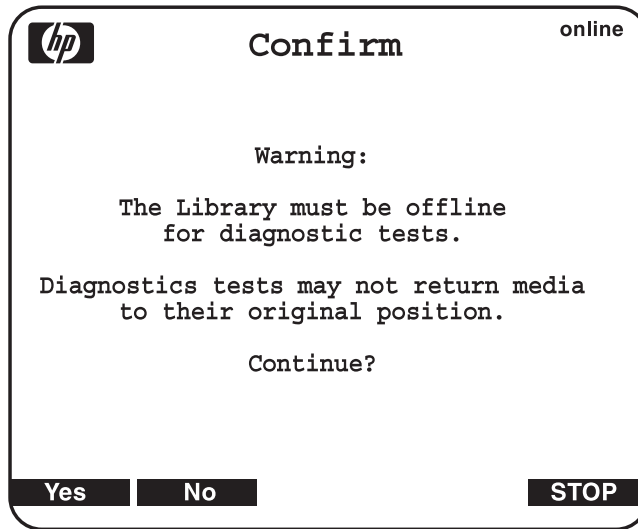

Figure 32: Diagnostics confirmation remaining offline
3. If you did not take the library off-line, the OCP displays a notification (see Figure 32).